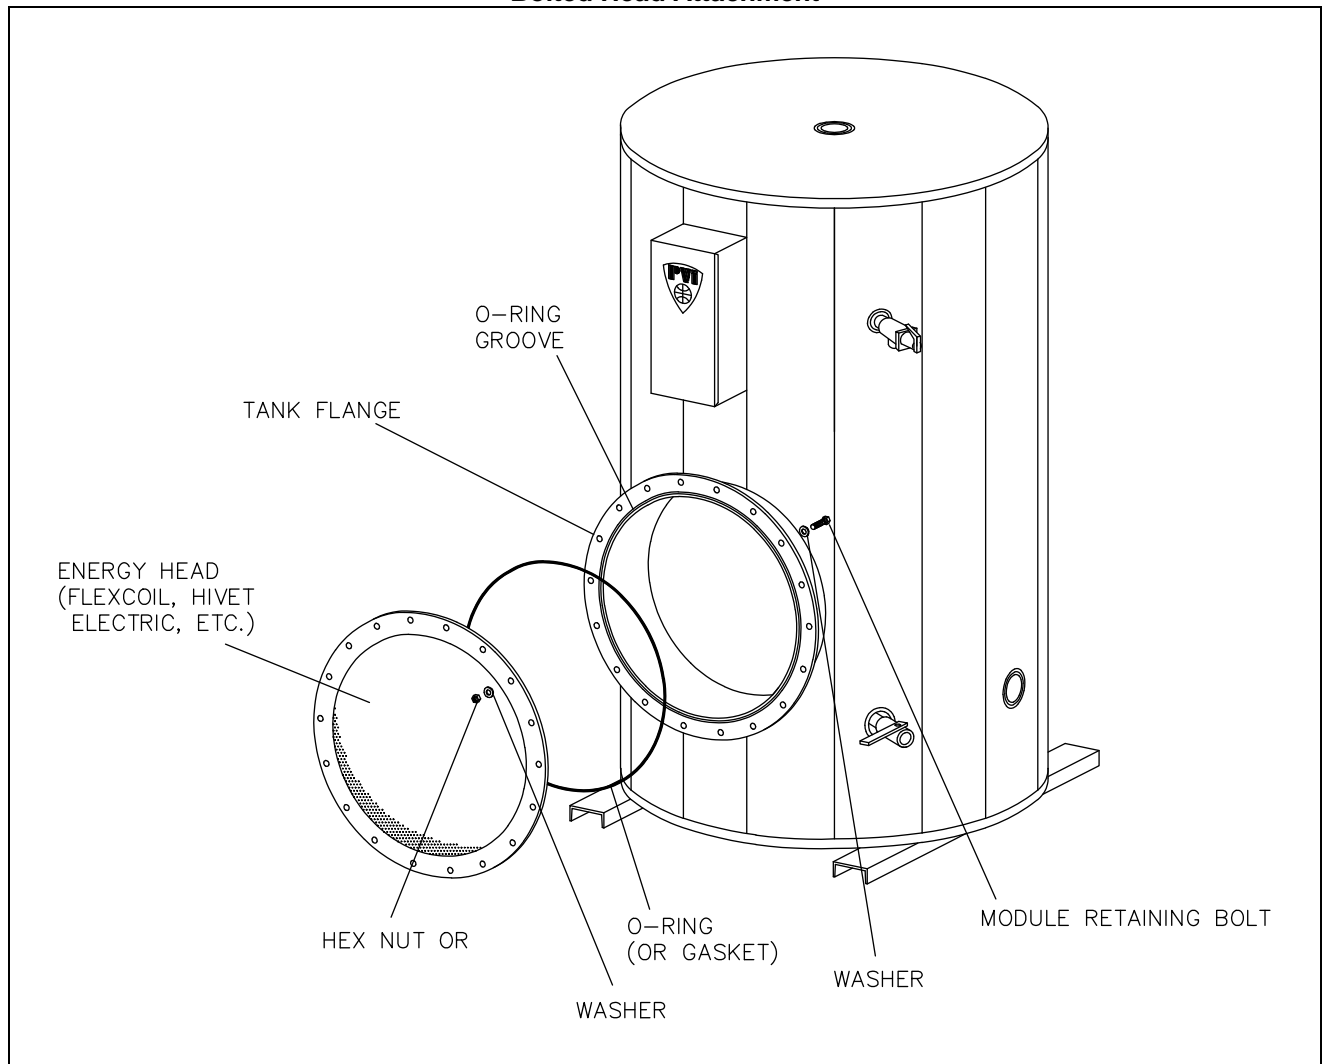

Figure 9
To clean heater through the rear access flange or the module opening if no rear access head is available, proceed as follows. (See Figure 9, page 17 for detailed head removal procedure.)
5. Replace the head or the TURBOPOWER® module. (See Figure 9, page 18.)